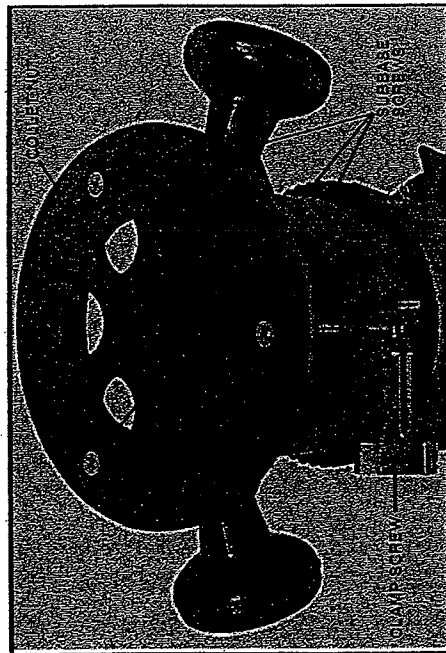

Fig. 4
2. Loosen clamp screw (see Fig. 4), and adjust motor so that the collet nut engages the center hole in the subbase. Allow the subbase to center itself on the collet nut. Tighten clamp screw.